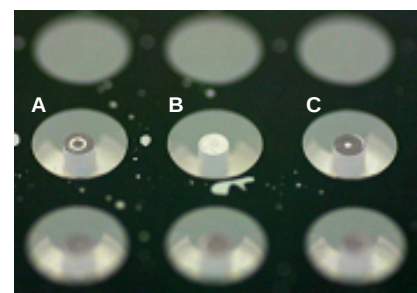

Figure 3. Stoppers that are A) Partially Sealed, B) Unsealed, & C) Completely Sealed
5. Visually inspect the underside of the populated 96-well plate to ensure that the bottom of the Oris™ Cell Seeding Stoppers are firmly sealed against the well bottom. To inspect the stoppers, turn the plate over and examine the stoppers for sealing (see Figure 3). If incomplete sealing is observed, return the plate to the upright position and use a sterile instrument to gently push the stopper back into the well until sealing is observed.